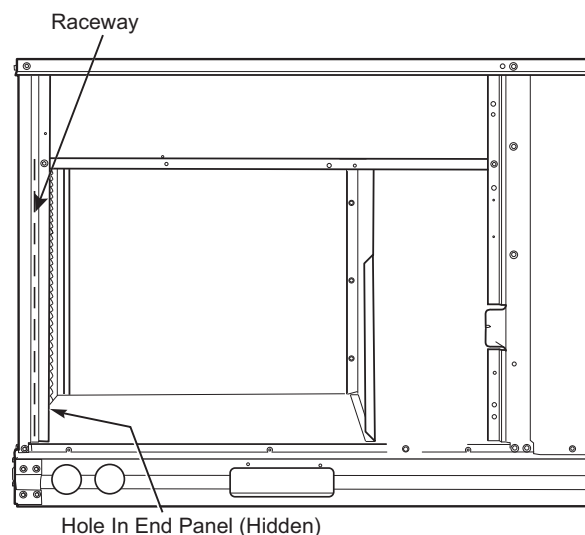

Fig. 36 — Field Control Wiring Raceway
Pass the thermostat control wires through the hole provided in the corner post; then feed the wires through the raceway built into the corner post to the control box. Pull the wires over to the terminal strip on the lower-left corner of the SystemVu MBB. See Fig. 36.
2. Feed wires through the raceway built into the corner post (see Fig. 36) to the 24v barrier located on the left side of the control box. The raceway provides the UL-required clearance between high-voltage and low-voltage wiring.